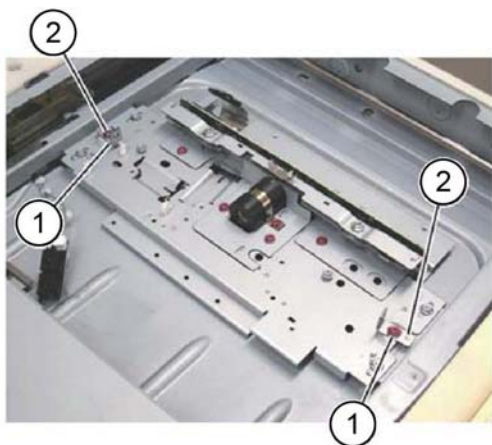

Figure 1 Jig pins
3. Remove the alignment pins from the lens assembly, Figure 1:
- a. Remove two screws (1).
- b. Remove the alignment pins (2).